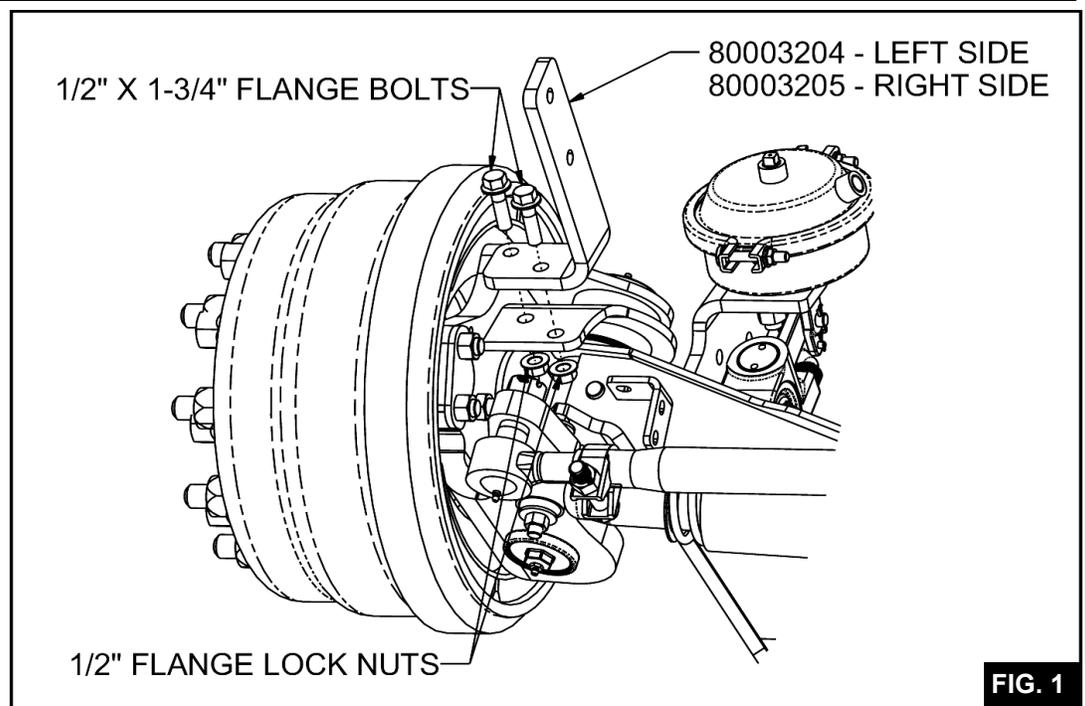

FIG. 1
3.2 Install the rear mounting bracket as shown in **Fig 1**.